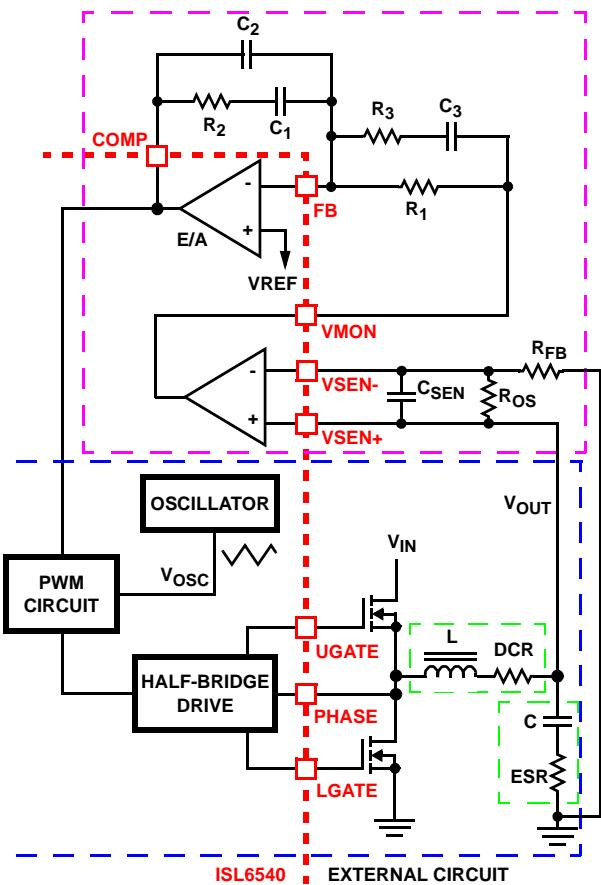

FIGURE 10. VOLTAGE-MODE BUCK CONVERTER COMPENSATION DESIGN
Figure 10 highlights the voltage-mode control loop for a synchronous-rectified buck converter, when using an internal differential remote sense amplifier. The output voltage ( $V_{OUT}$ ) is regulated to the reference voltage,  $V_{REF}$ , level. The error amplifier output (COMP pin voltage) is compared with the oscillator (OSC) triangle wave to provide a pulse-width modulated wave with an amplitude of  $V_{IN}$  at the PHASE node. The PWM wave is smoothed by the output filter ( $L$  and  $C$ ). The output filter capacitor bank's equivalent series resistance is represented by the series resistor  $ESR$ .
1. Select a value for  $R_1$  (1k $\Omega$  to 10k $\Omega$ , typically). Calculate value for  $R_2$  for desired converter bandwidth ( $F_0$ ). If setting the output voltage to be equal to the reference set voltage as shown in Figure 22, the design procedure can be followed as presented. However, when setting the output voltage via a resistor divider placed at the input of the differential amplifier (as shown in Figure 10), in order to compensate for the attenuation introduced by the resistor divider, the below obtained  $R_2$  value needs be multiplied by a factor of  $(R_{OS}+R_{FB})/R_{OS}$ . The remainder of the calculations remain unchanged, as long as the compensated  $R_2$  value is used.
A small capacitor,  $C_{SEN}$  in Figure 10, can be added to filter out noise, typically  $C_{SEN}$  is chosen so the corresponding time constant does not reduce the overall phase margin of the design, typically this is 2x to 10x switching frequency of the regulator. As the ISL6540 supports 100% duty cycle,  $d_{MAX}$  equals 1. The ISL6540 also uses feedforward compensation, as such  $V_{OSC}$  is equal to 0.16 multiplied by the voltage at the VFF pin. When tieing VFF to  $V_{IN}$  the above equation simplifies to: